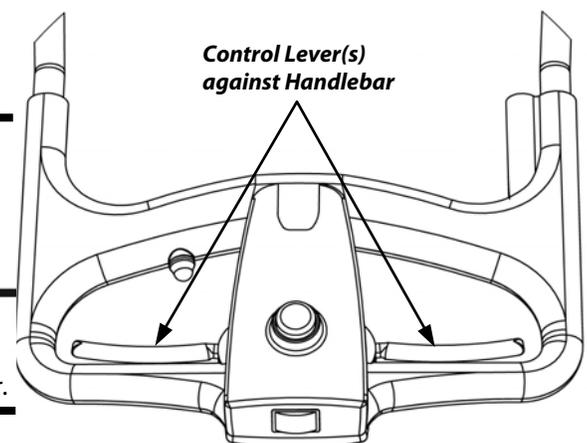

Figure 21
2. Squeeze and hold the orange Control Lever(s) (**Figure 21**).